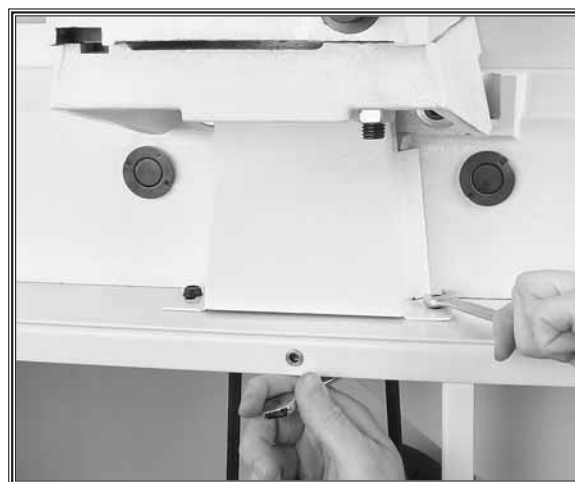

Figure 14. Installing the belt guard.
14. Use the two M6-1 x 10 flange bolts, M6-1 hex nuts, and 6mm flat washers to install the belt guard, as shown in **Figure 14**.